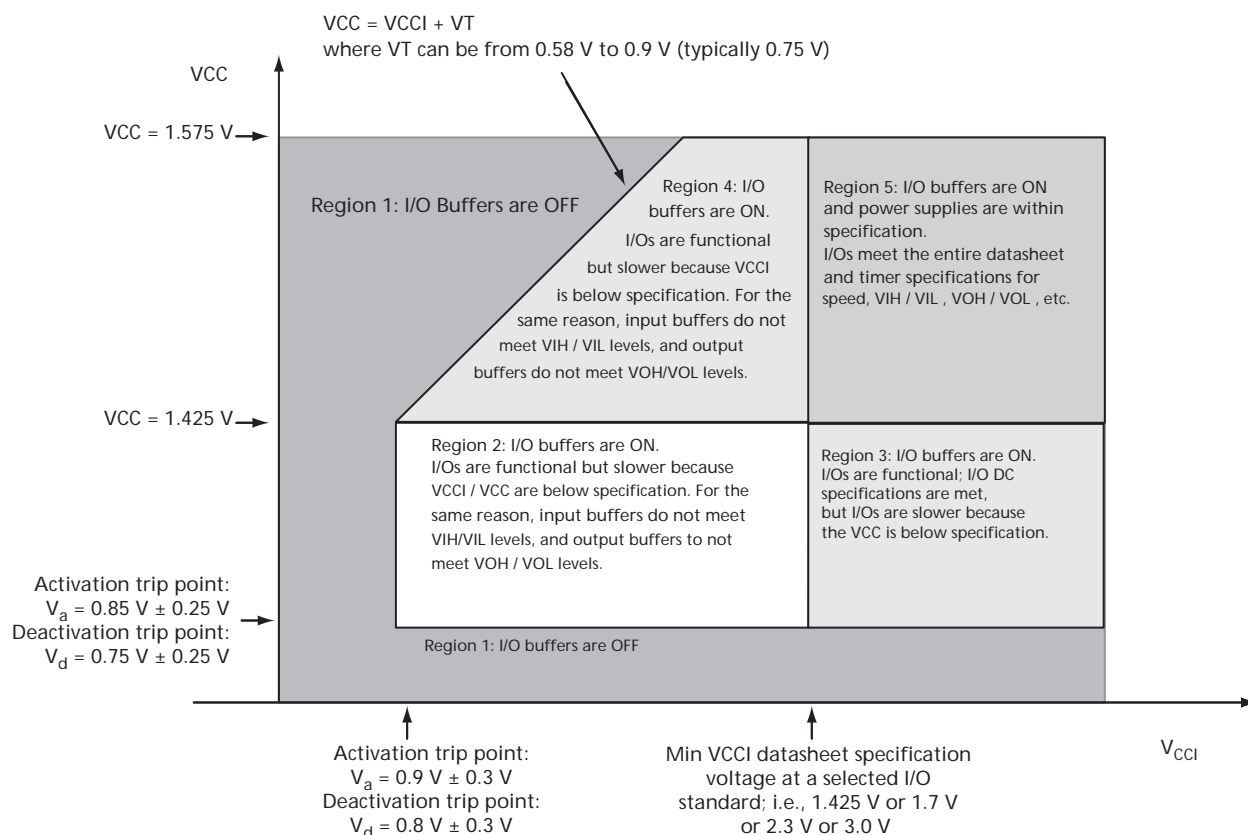
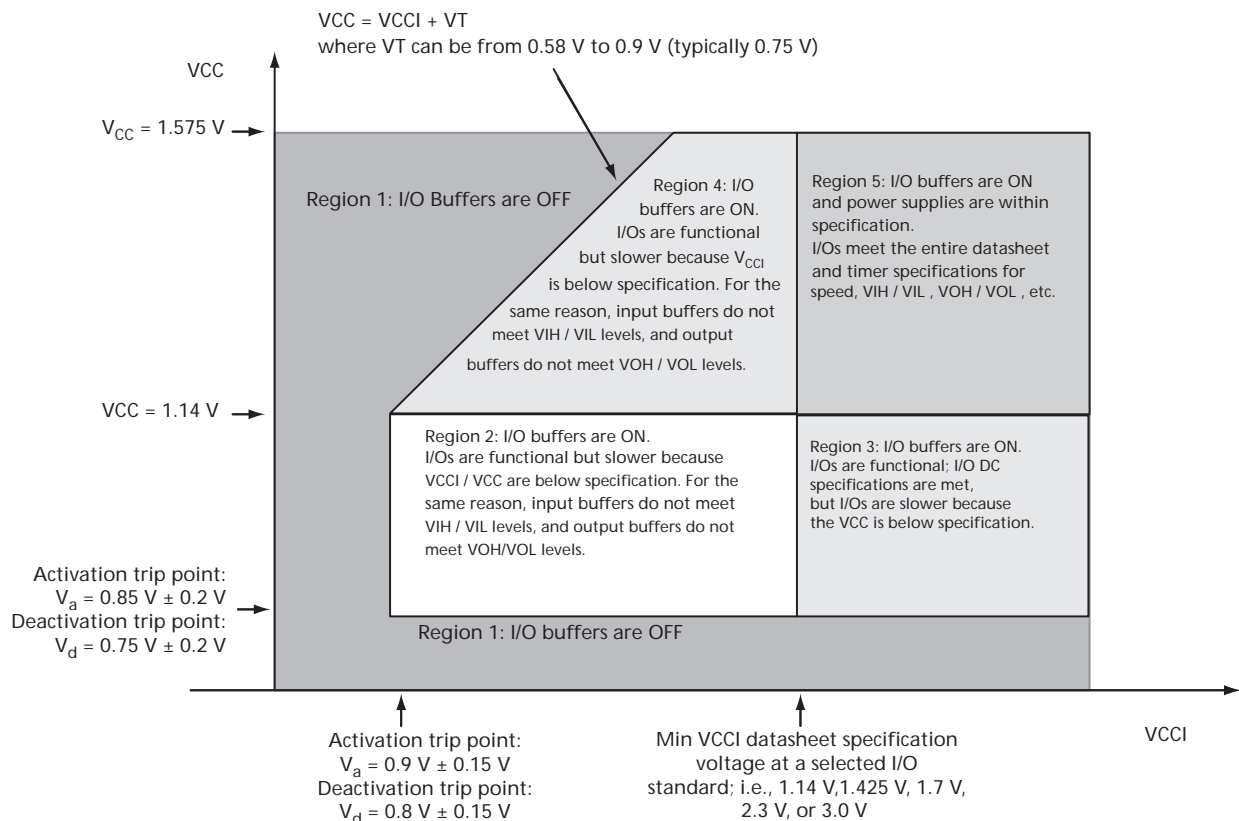

Figure 2-1 • V5 Devices – I/O State as a Function of VCCI and VCC Voltage Levels
Figure 2-2 • V2 Devices – I/O State as a Function of VCCI and VCC Voltage Levels
Sophisticated power-up management circuitry is designed into every IGLOO nano device. These circuits ensure easy transition from the powered-off state to the powered-up state of the device. The many different supplies can power up in any sequence with minimized current spikes or surges. In addition, the I/O will be in a known state through the power-up sequence. The basic principle is shown in Figure 2-1 on page 2-4.
1. VCC and VCCI are above the minimum specified trip points (Figure 2-1 and Figure 2-2 on page 2-5).
Microsemi recommends using monotonic power supplies or voltage regulators to ensure proper power-up behavior. Power ramp-up should be monotonic at least until VCC and VCCPLX exceed brownout activation levels (see Figure 2-1 and Figure 2-2 on page 2-5 for more details).